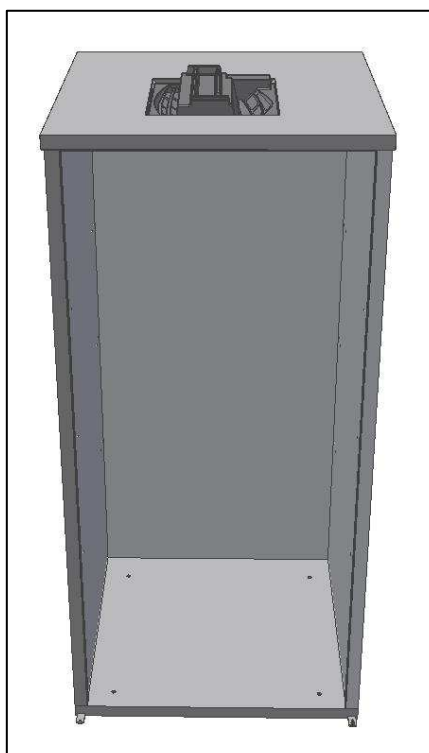

Fig. 7
- Fix the **panel of the top** on the side and back panels, fasten only the back (Fig.7).